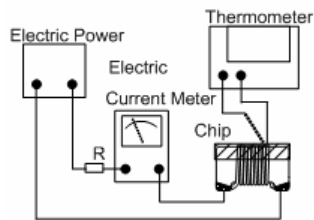

Fig. 6.3.5-1
- d. Definition of Rated Current (I_r): I_r is direct electric current as chip surface temperature rose just 15°C against chip initial surface temperature (T_a) (see **Fig. 6.3.5-2**).